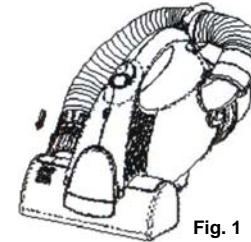

Fig. 1
1. Insert the dusting brush/hose connector into the brush chamber exhaust port. Lock the flexible hose in place by clipping the hose into the hose holder. (Fig. 1)